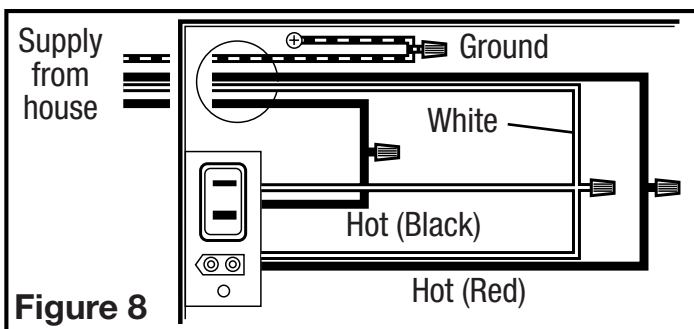

Figure 8
- 1a. From where you have access to inside the fan's junction box, connect the one white wire from the house to both the white wire from the fan's light receptacle and the white wire from the fan's exhaust receptacle. Connect the first black wire from the wall switch to the red wire from the fan's light receptacle. Connect the second black wire from the switch to the fan's exhaust receptacle. Connect the ground wire from the house to the green wire from the fan's grounding screw (**Figure 8**). Use approved methods for all connections.